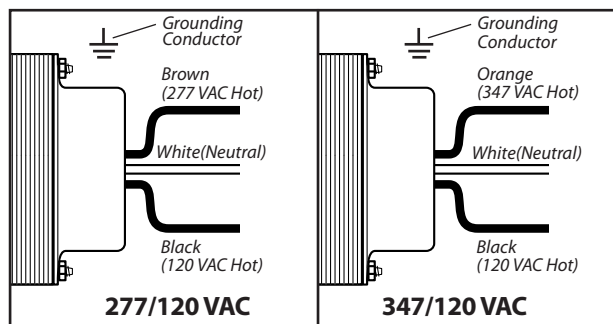

Figure 2.1 – transformer wiring details
2.2.1 Wire Control Transformer Pull a dedicated 120VAC, 277VAC, or 347VAC circuit to the panel for the control transformer. See figure 2.1 for termination details. Cap the unused lead to prevent electrical shock.
- Verify power to controller and output boards from the secondary of the transformer. The voltage should be 24-28VAC from red wire to red wire, 12 – 16VAC yellow wire to each red wire. See figure 2.1 for details.